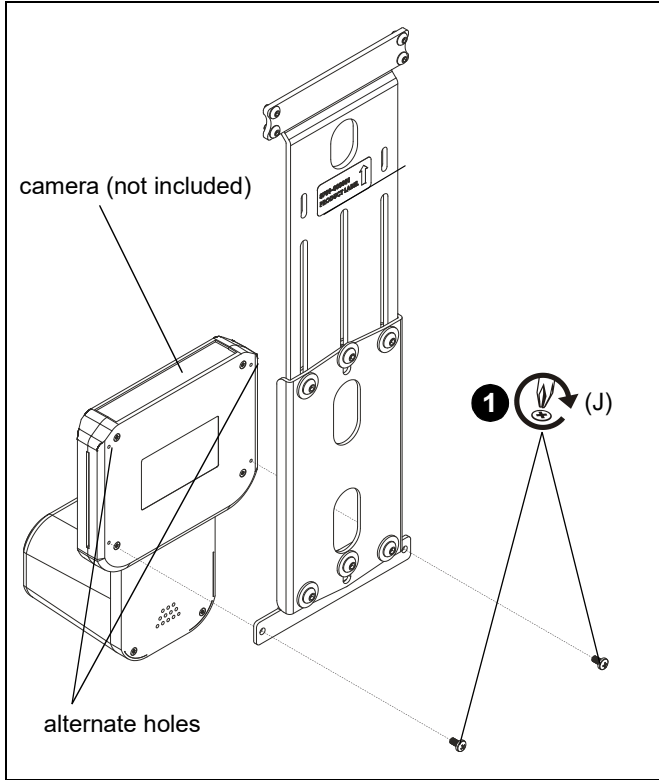

Figure 7
1. Install two M4x8mm Phillips pan machine screws (J) through holes on camera bracket (C) and into holes on back of camera. (See Figure 7)